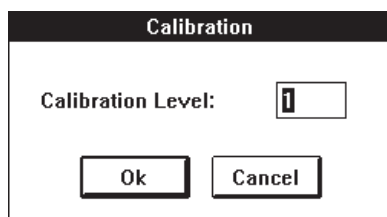

Figure 36 Calibration window
2. A window will appear which says "Calibration Level" and has a number highlighted (See Figure 36). Enter **1** and click on **[Ok]**.